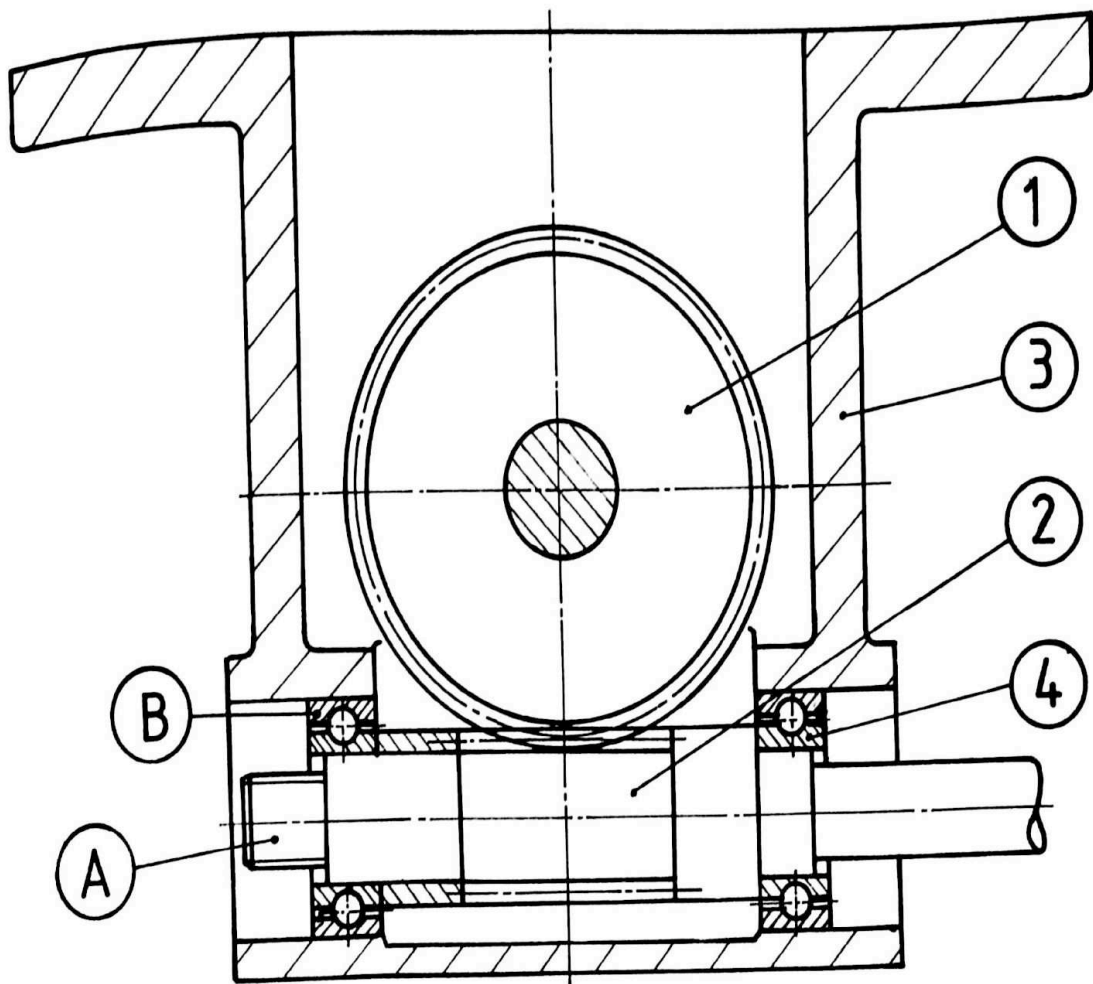

FIG. 6
- (a) Fig. 6 shows an elevation of a machine casting. Draw an isometric view of the casting, on section plane CC, with the front portion of the casting removed. P is to be the lowest point on the drawing.